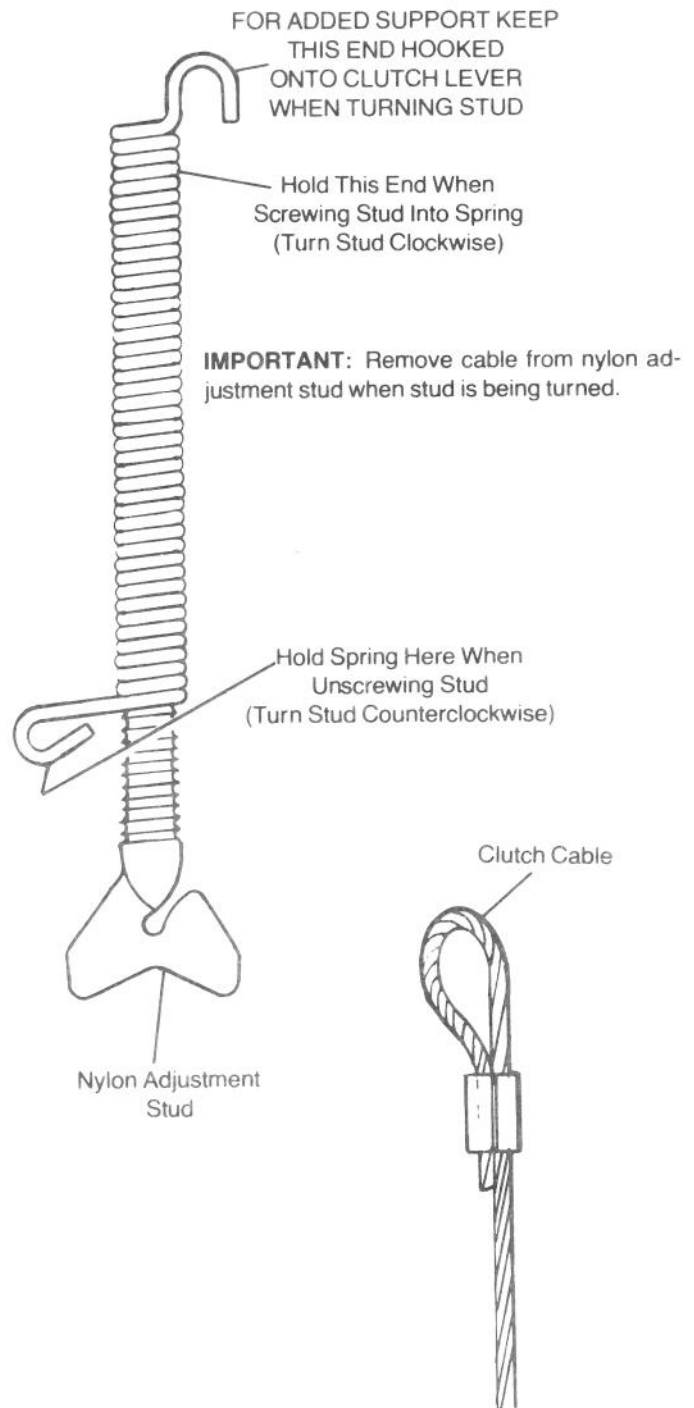

FIGURE 15
- B. If the tines do not move tighten cable by turning nylon adjustment stud one full turn clockwise into spring (Fig. 15) and again pull starter rope with tines off the ground and the clutch lever up (released). Repeat tightening procedure until tines move, then go to step 2.